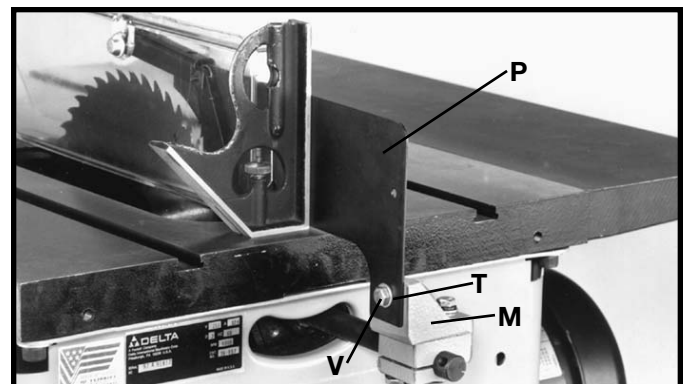

Fig. 21
9. Fasten splitter and guard assembly (P) Fig. 21, to bracket (M) using one inch-long hex head screw (V) and flat washer (T).